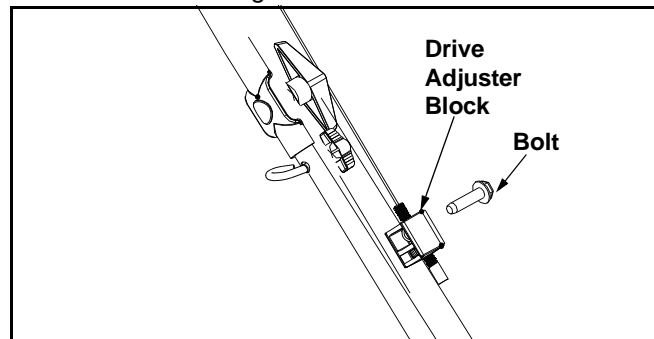

Figure 5
3. Secure drive adjuster block with the bolt previously removed. See Figure 5 .